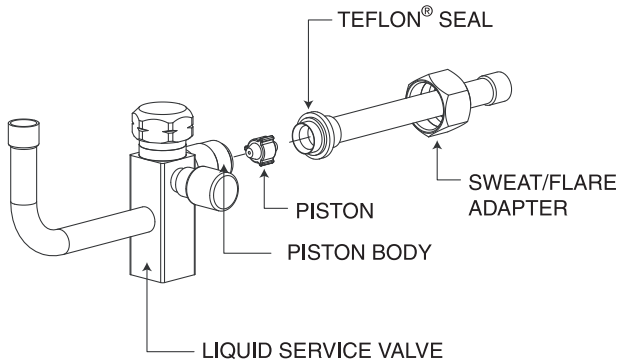

Fig. 4 - Liquid Service Valve
4. Remove Teflon® seal from bag and install on open end of liquid service valve. (See Fig. 4.)